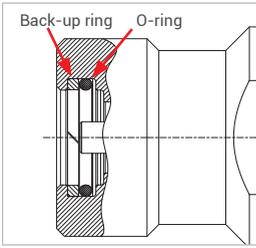

Figure 3
- ▶ Before inserting the receptacle insert (Pos. 7), check both sealing elements (o-ring and back-up ring, *Figure 3*) for correct installation direction, proper position and damages.